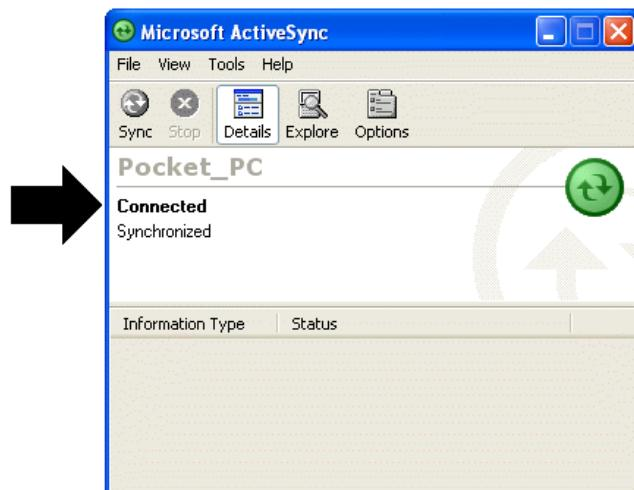

Figure 82. Connection Established.
4) Continue with installation as directed. At the end of the wizard, the ActiveSync dialog will indicate the Detective-EX computer is **Connected** (Fig. 82). If ActiveSync cannot connect to the Detective-EX, see the troubleshooting steps in Section 7.10.